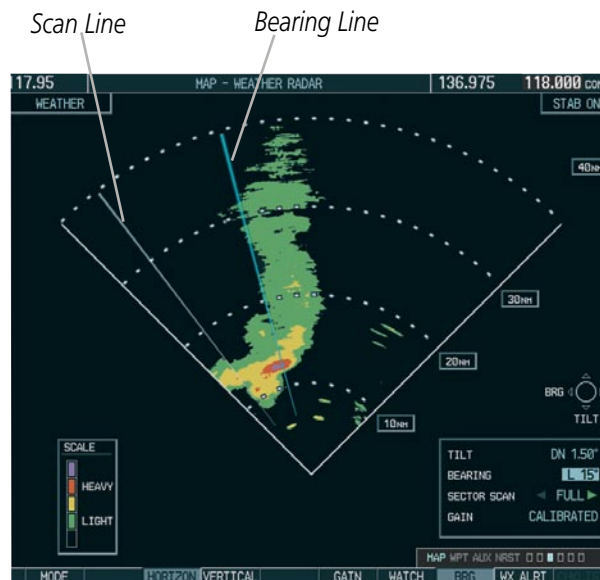

Figure 6-62 Bearing Line on Horizontal Scan
- 5) The horizontal scan is initially displayed (Figure 6-62). If desired, select the **VERTICAL** Softkey to change to vertical scanning.